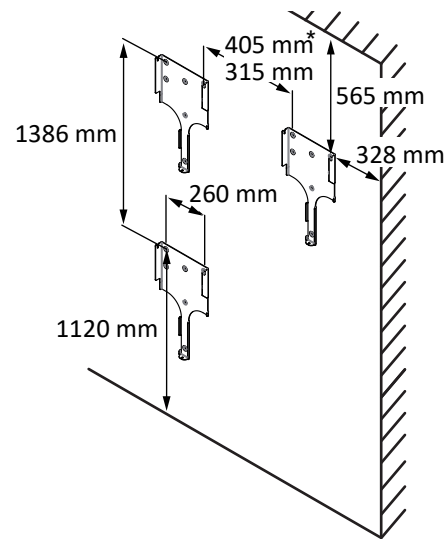

Fig. 13: Position of wall bracket / suspension
- Minimum clearances to be observed during installation: [See figure 13 [▶ Page 18]